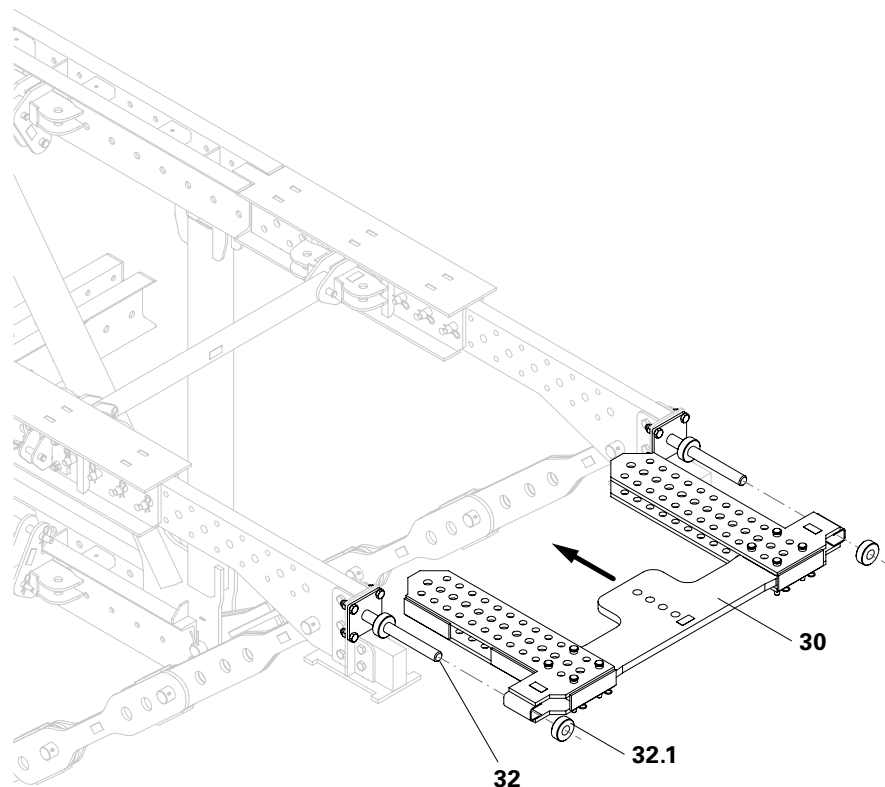

Fig. A2.11
6. Secure the Bracing Traverse with the Nuts (32.1). (Fig. A2.11)